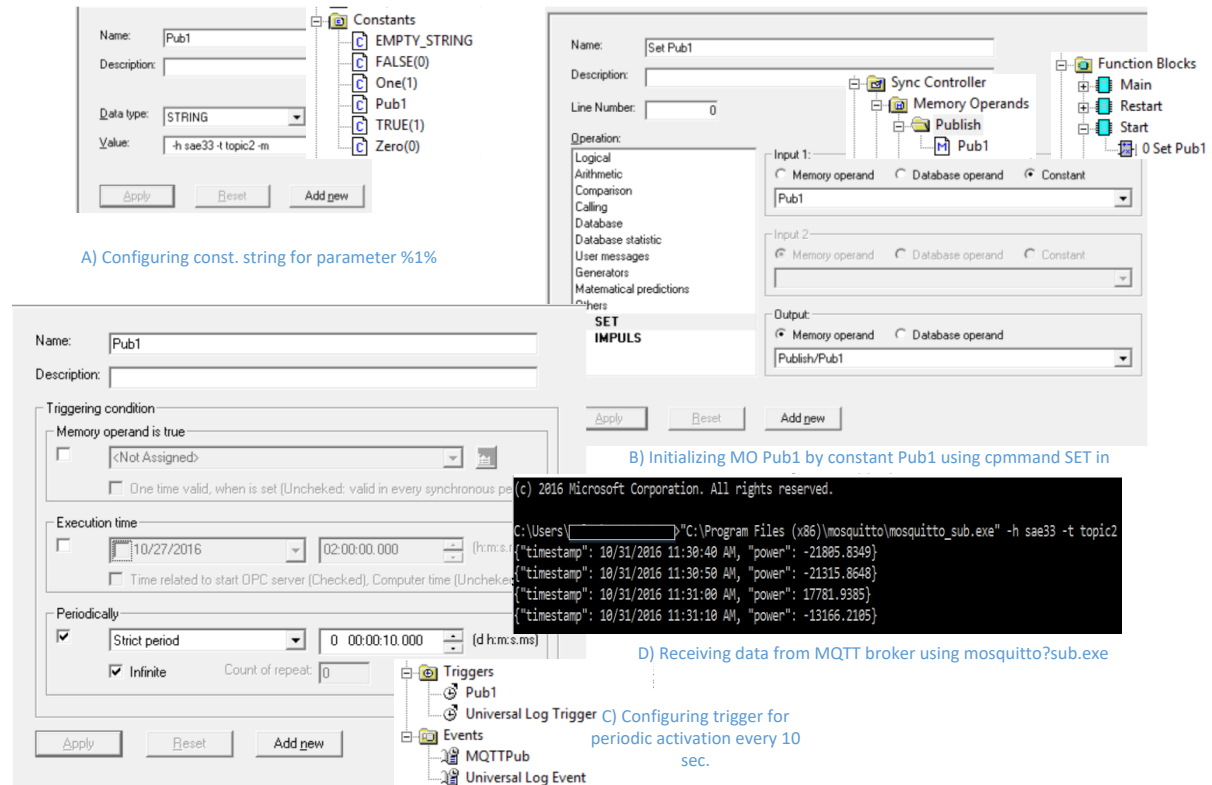

Figure 3 Configuring constant, function block START, trigger and watching running application using mosquitto_sub.
5. Create new periodic trigger (with period e.g. 10 s - Figure 3 C)
6. Create a constant with the type "string" with content `-h sae33 -t topic2` (Figure 3)
7. Within function blocks START and RESTART make initialization of a MO with constant from step 6 using configurable command SET (Figure 3 B).
10. To watch running application start MQTT subscription client in console using command `"C:\Program Files (x86)\mosquitto\mosquitto_sub.exe" -h sae33 -t topic2` (Figure 3 D)